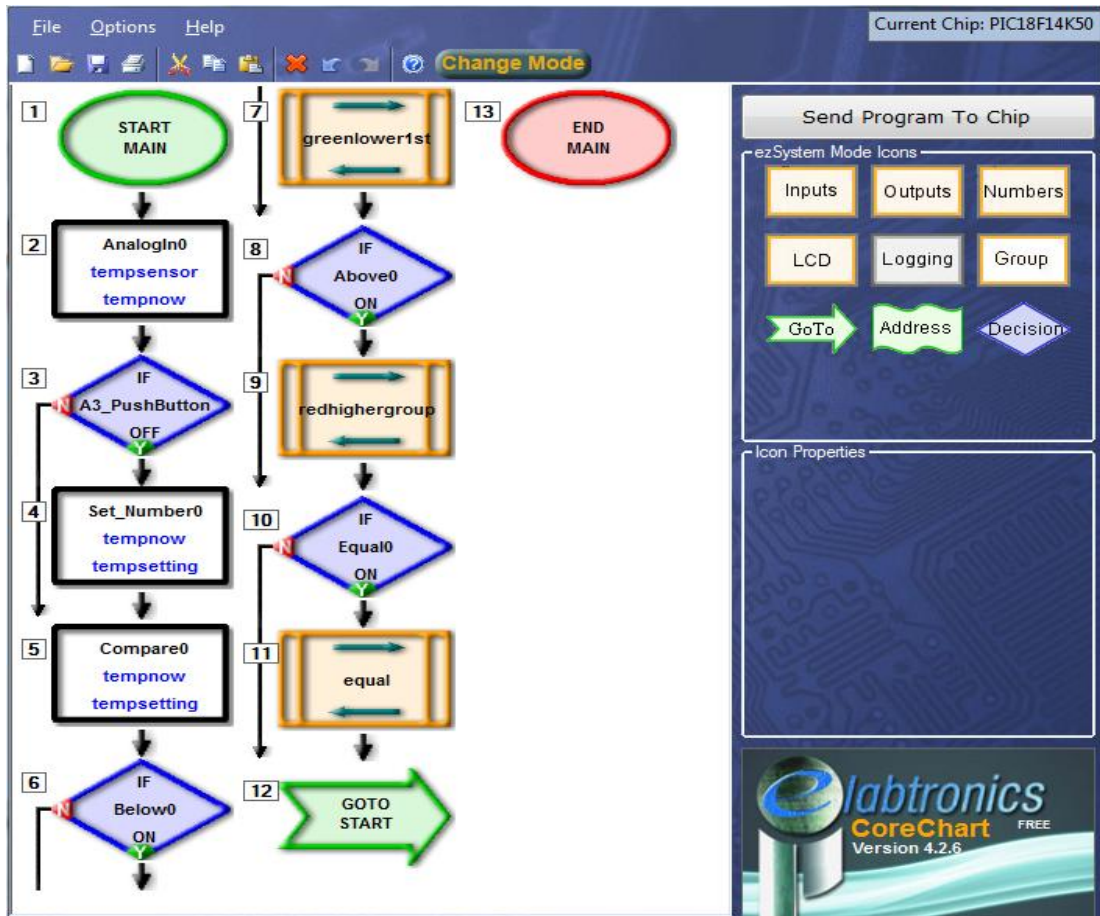

Figure 5 – the control program
6. If **tempnow** is below **tempsetting**, then turn on the green LED, and turn off the red and yellow LEDs. Similarly, if tempnow is above tempsetting, turn on the red LED and turn off the green and yellow LEDs. If the two temperatures are equal, then only the yellow LED should be on. These icons will need to be put into groups so that they will fit beneath the above, below and equal decision icons. Please see Fig 5 for reference.